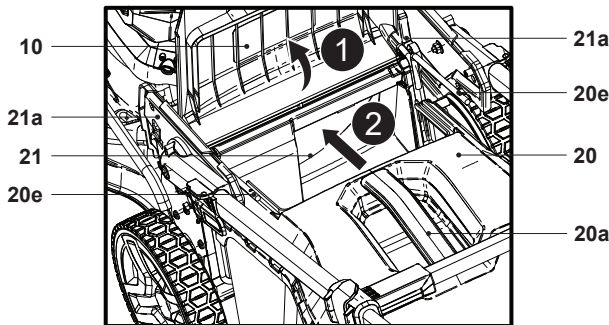

Fig. 6
3. Open the deflector guard (10) and hold it in position (Fig. 6, step 1).
4. Carry the grass catcher (20) by its carry handle (20a).
5. Align the two catcher hooks (20e) with the spring hooks (21a) and hang the grass catcher (20) onto it (Fig. 6, step 2).
6. Carefully release the deflector guard (10) afterward.